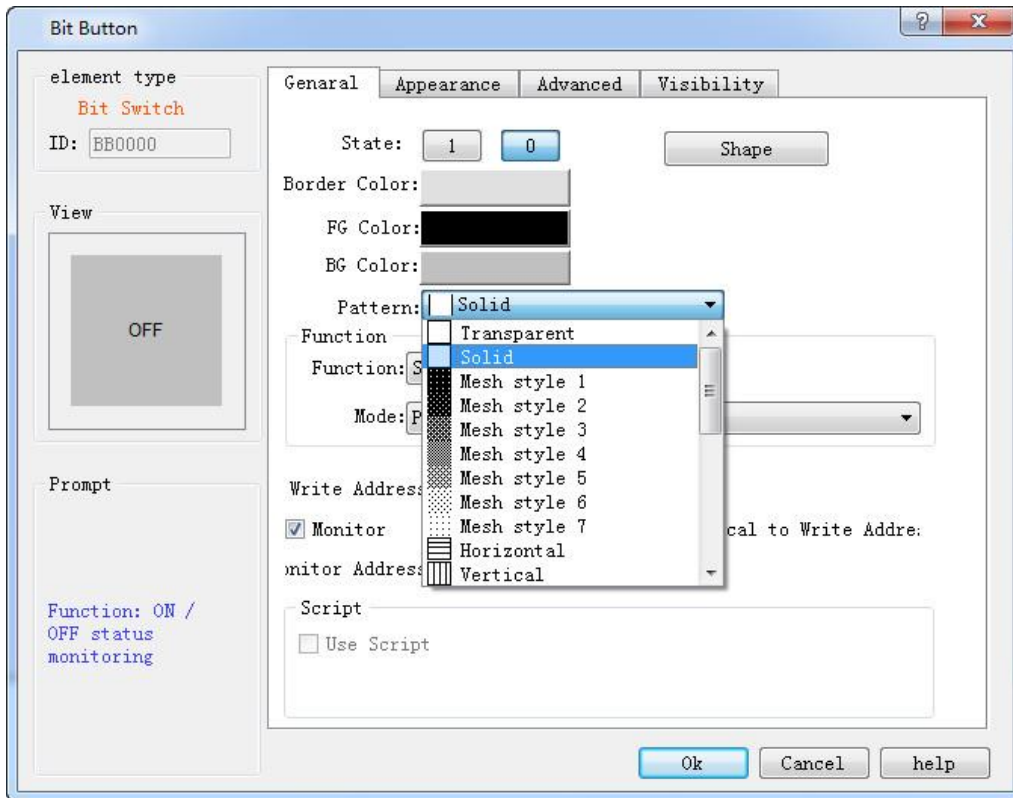

Figure 4-70 Change shape and pattern value
- ◆ Pattern: Click the drop-down box, which contains a total of 21 kinds of patterns as shown in Figure 4-70: